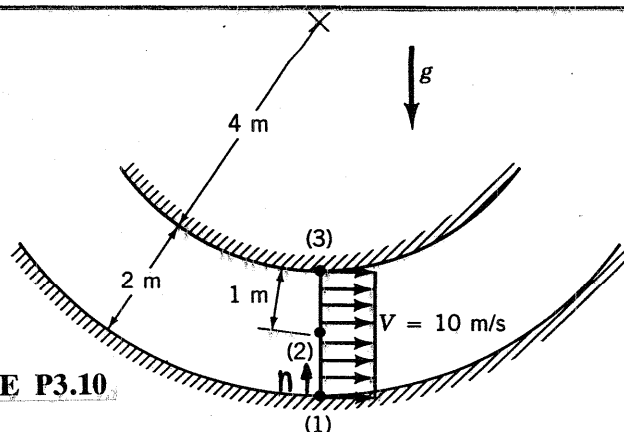

FIGURE P3.10
3.10 Water flows around the vertical two-dimensional bend with circular streamlines and constant velocity as shown in Fig. P3.10. If the pressure is 40 kPa at point (1), determine the pressures at points (2) and (3). Assume that the velocity profile is uniform as indicated.